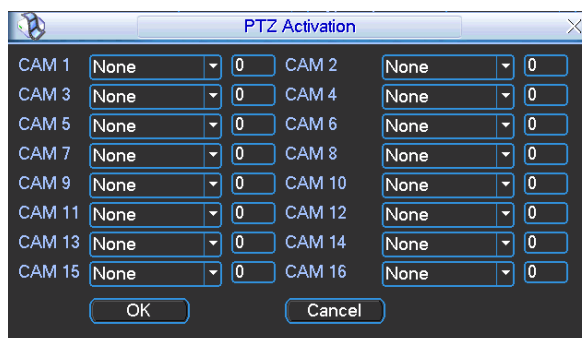
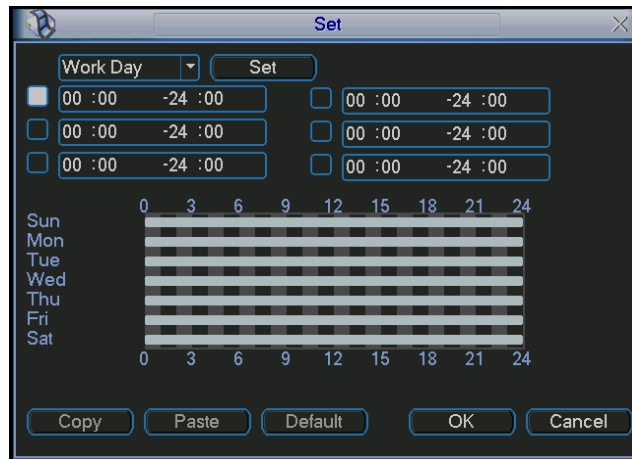

Figure 6-53
Figure 6-54
- ✧ In Figure 6-53, click “select” button, you can see an interface is shown as in Figure 6-54. Here you can set the activation operation such as preset tour, pattern and enable.